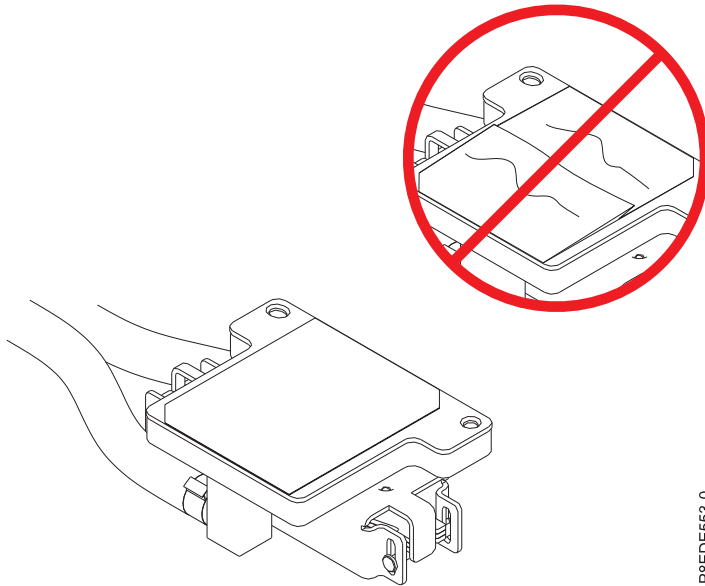

Figure 82. Inspecting the thermal interface material (TIM)
14. Inspect the thermal interface material (TIM) on the bottom side of the cold plate. See Figure 82 on page 83. Use the following criteria as you inspect the TIM: